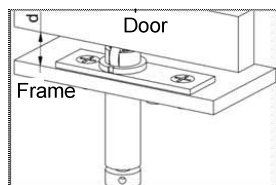

Fig. 1
- 1 - distance  $d$  between the door and the frame exceeds 13 mm (additional installation possible) - see Fig.1